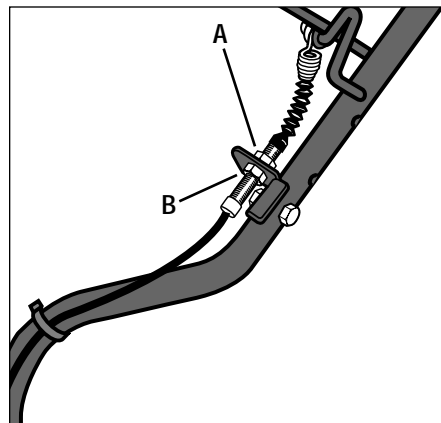

Figure 5-1
1. Stop the engine and wait for all parts to stop moving. Adjust the two jam nuts on the control cable adjustment stud (see Figure 5-1) as follows:
- a. To tighten belt tension, thread the upper nut (A, Figure 5-1) upward one or two full turns, followed by the lower nut (B). Tighten both nuts securely. Test unit and readjust jam nuts as needed.
- b. To loosen belt tension, thread the lower nut (B) downward one or two full turns, followed by the upper nut (A). Tighten both nuts securely. Test unit and readjust jam nuts as needed.